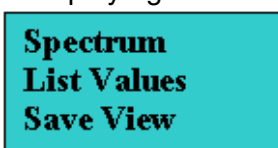

Figure 13: Spectral grid viewport menu if **Histogram** is selected.
- ⇒ **Histogram**: Displays a histogram of the data in an ROI. This selection is only available if an ROI has been placed on the images. If selected, the shortcut menu is reduced to three selections, **Spectrum**, **List Values**, and **Save View** as shown in Figure 13, and the shortcut menu is limited to three selections until you select the **Spectrum** display again.